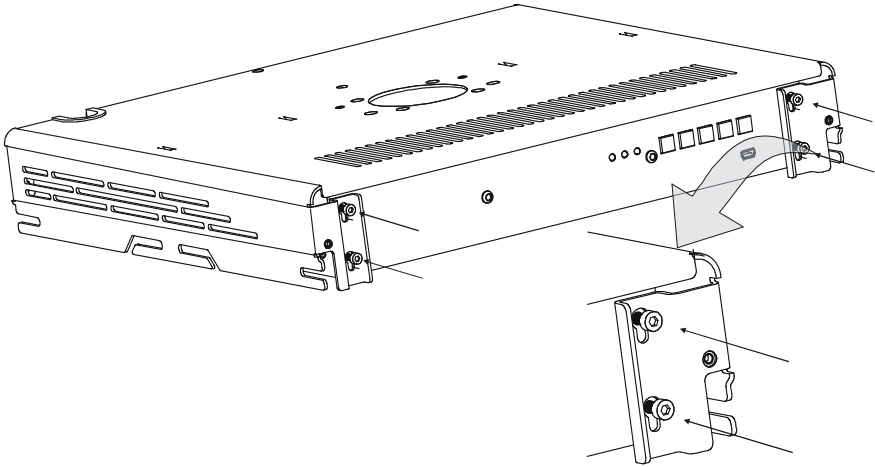

Figure 36: Installing the Switcher
8. Tighten the four screws to fix the switcher to the **SV-1**, as Figure 36 illustrates: